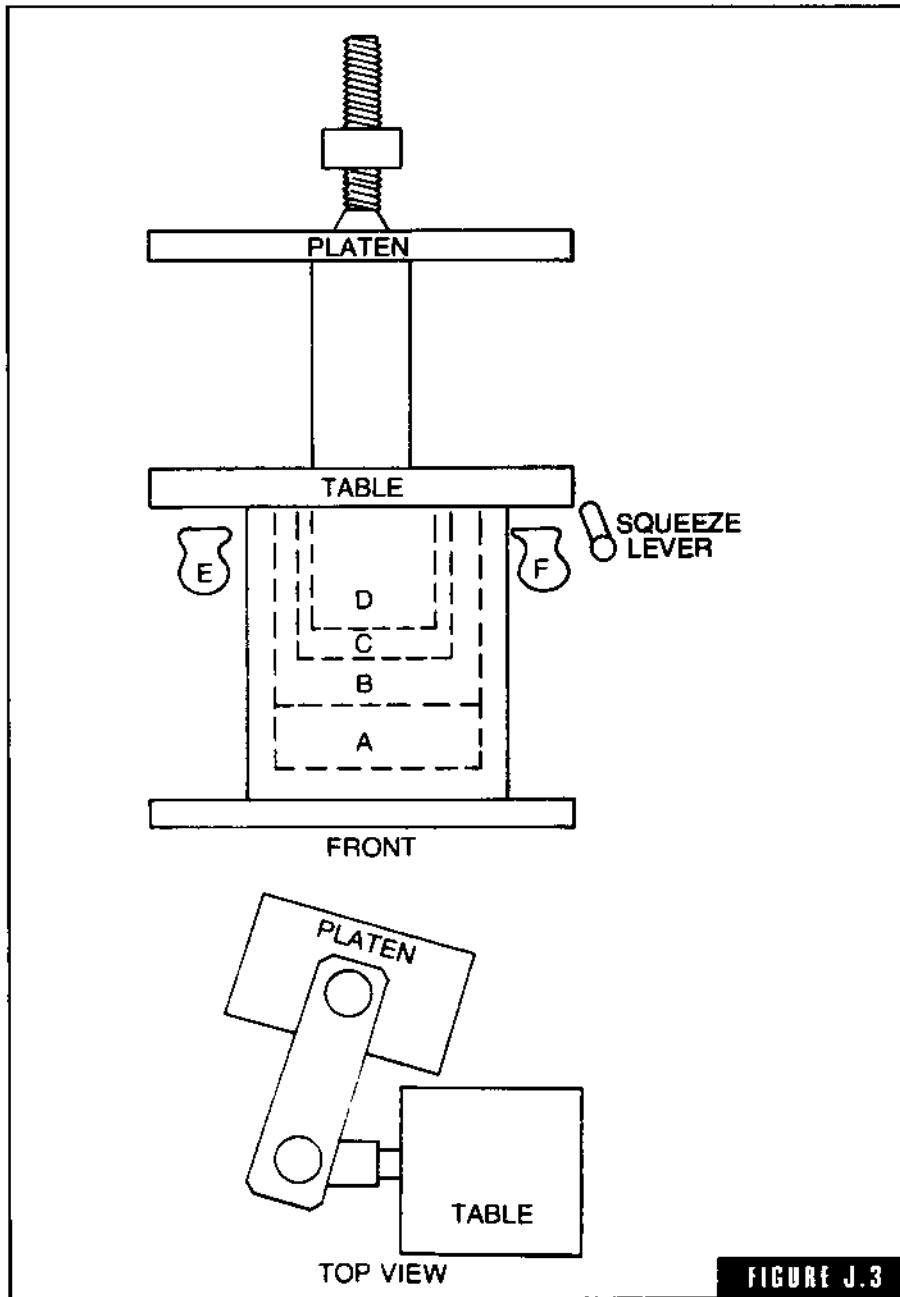

FIGURE J.3
**jolt squeeze molding machine** A molding machine which is equipped with two cylinders and two positions—one for jolting the mold and one for squeezing the mold (Fig. J-3).